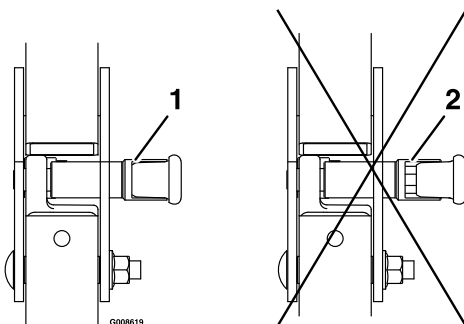

Figure 17
5. Make sure the knobs are fully engaged with the roll bar in the raised position. The upper hoop of the roll bar may need to be pushed forward or pulled rearward to get both knobs fully engaged (see Figure 17).